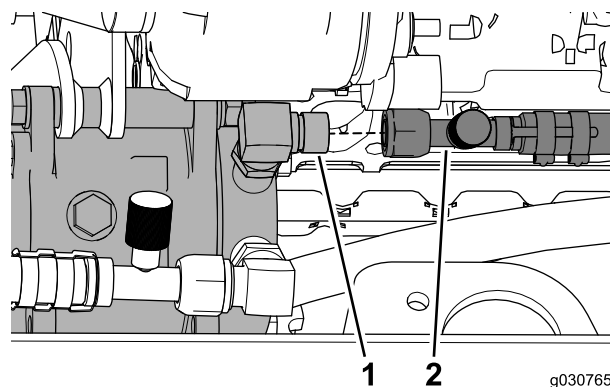

Figure 43
3. Connect the air-conditioning high-pressure hose (3/4 inch) from the cab to the right-angle fitting (3/4 inch) as shown in Figure 43.